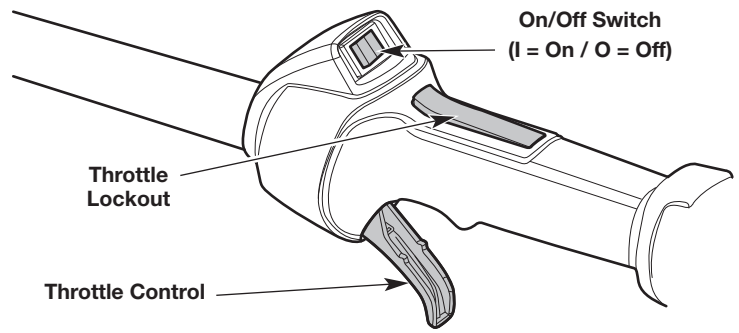

Fig. 9
NOTE: There is no need to turn the unit on. The On/Off switch is in the **On (I)** position at all times (Fig. 9).
4. Press and hold the throttle lockout. Squeeze and hold the throttle control (Fig. 9).
2. Press and hold the On/Off switch in the **Off (O)** position until the engine comes to a complete stop (Fig. 9).
5. Press and hold the throttle lockout. Squeeze and hold the throttle control (Fig. 9).